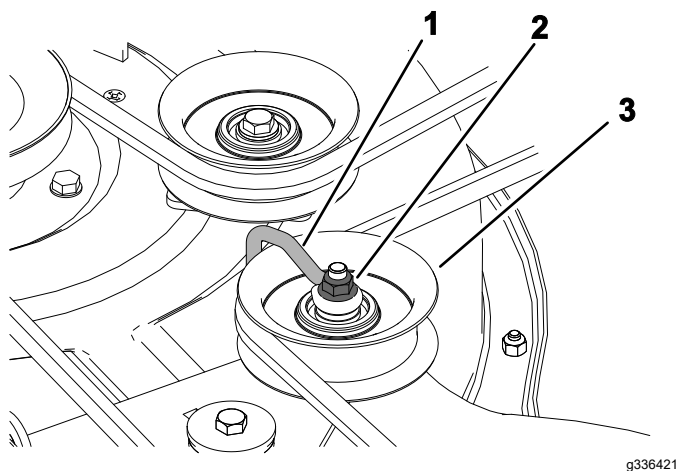

Figure 50
2. Screw (3)
5. Loosen the nut securing the wire form to the idler pulley (Figure 50).
- Note:** Position the wire form against the idler arm as shown in Figure 50.